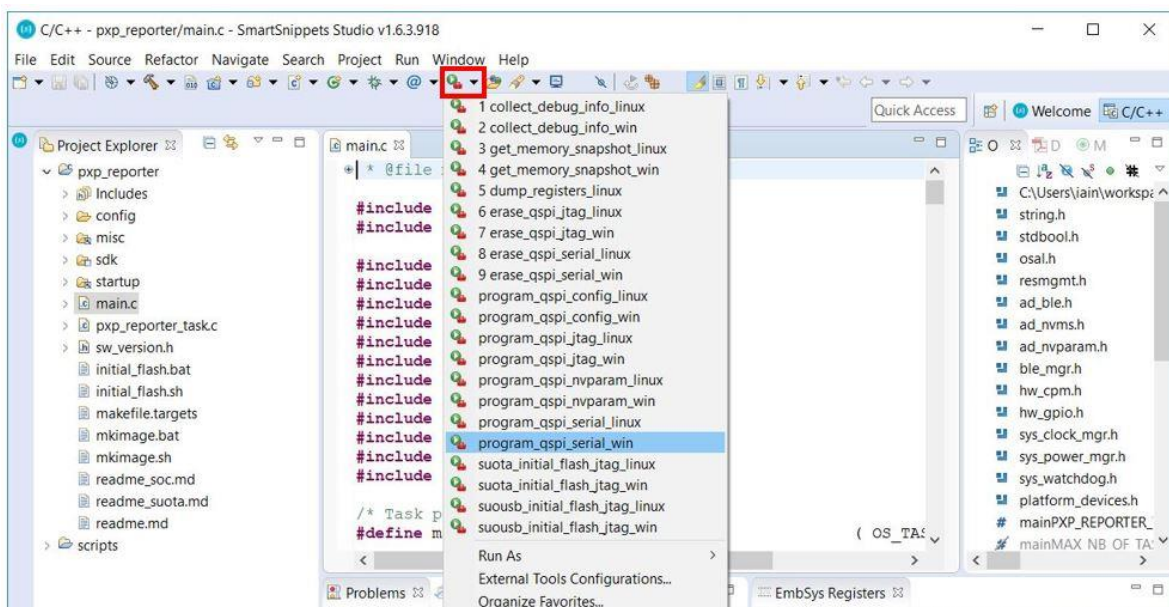

Figure 6: External Tool Configurations Menu
5. Select the External Tool Configurations button (highlighted in Figure 6), choose the appropriate script file (in this example, the `program_qspi_serial_win` script is used) to program the QSPI Flash memory and select Run (alternatively, click **Run > External Tools > program\_qspi\_serial\_win**).